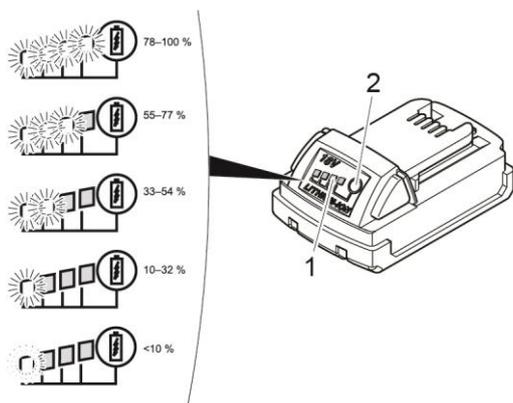

Fig. 9: Checking the battery charge level
► Press button (Fig. 9/2).
The number of illuminated LEDs (Fig. 9/1) shows the charge status. A flashing LED indicates less than 10 % charge level.